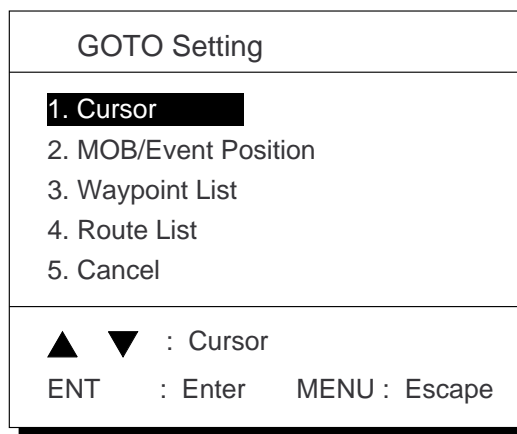

Figure 5-2 GOTO setting menu
- 1) Press the [GOTO] key. The menu shown in Figure 5-2 appears.